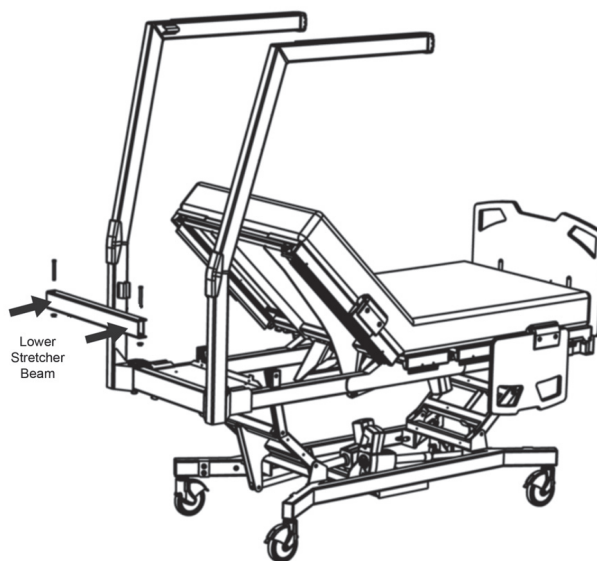

Figure 4
3. Install lower stretcher beam to the left patient helper frame, loosely bolt with 3/8" bolt and nylon locking nut (see Figure 4).
- Slide carriage assembly as far forward as possible to middle of bed. Tighten lower stretcher nuts from steps 3-6 (see Figure 4 and 5).